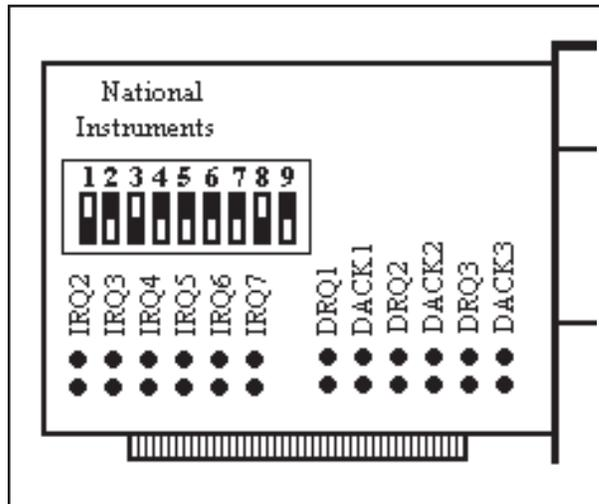

Figure 6 IEEE Card Settings
1. Set the National Instruments PCIIA card switches and jumpers (Figure 6). Install the card in the computer using the National Instruments Installation procedure.